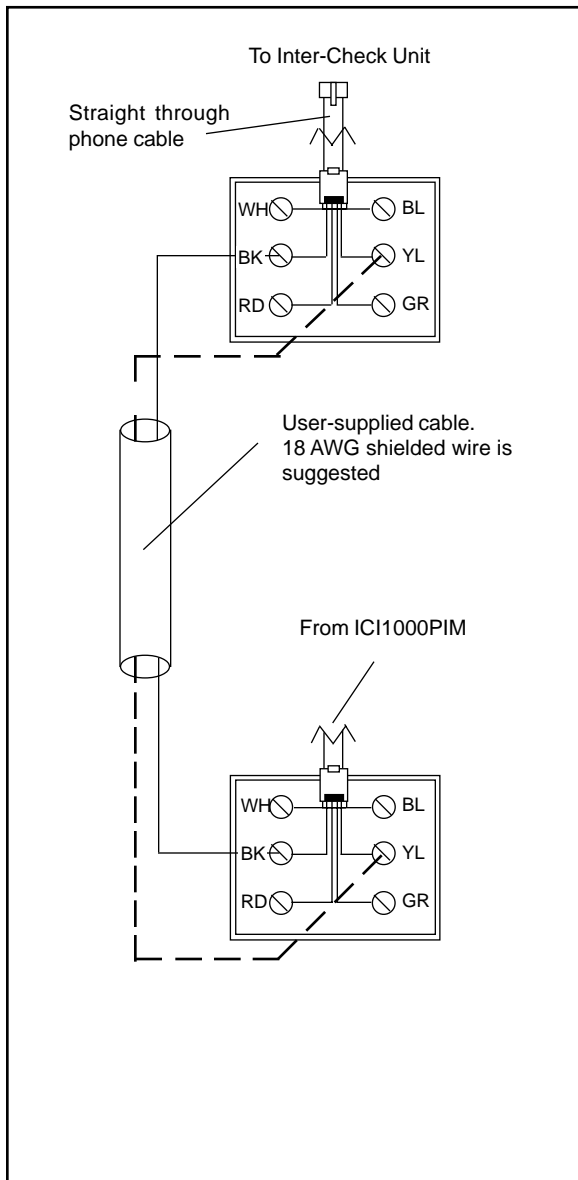

Figure 2. ICI1000PIM Wiring Configuration
2. Install an 18 gauge, two-conductor shielded cable between the interface cable/PIM and the ICI1000S unit using the ICI1000WK (wiring kit) supplied with your ICI1000S (refer to Figures 2 and 3). This kit contains two RJ14 phone jacks and one straight-through six conductor cable.